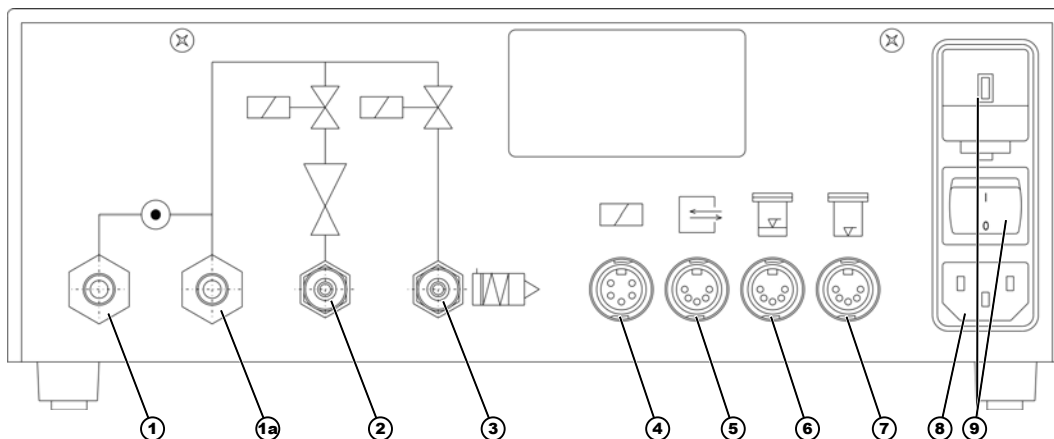

Fig. 3: Rückansicht
- Connect the MULTILINE 1000 S's Compressed Air Outlet 1a (see Fig. 3) to the pressure vessel via an external pressure controller. Set the pressure controller to minimum pressure.
Outlet 1a (see Fig. 3) is a direct branch from the MULTILINE 1000 S's Compressed Air Connection 12